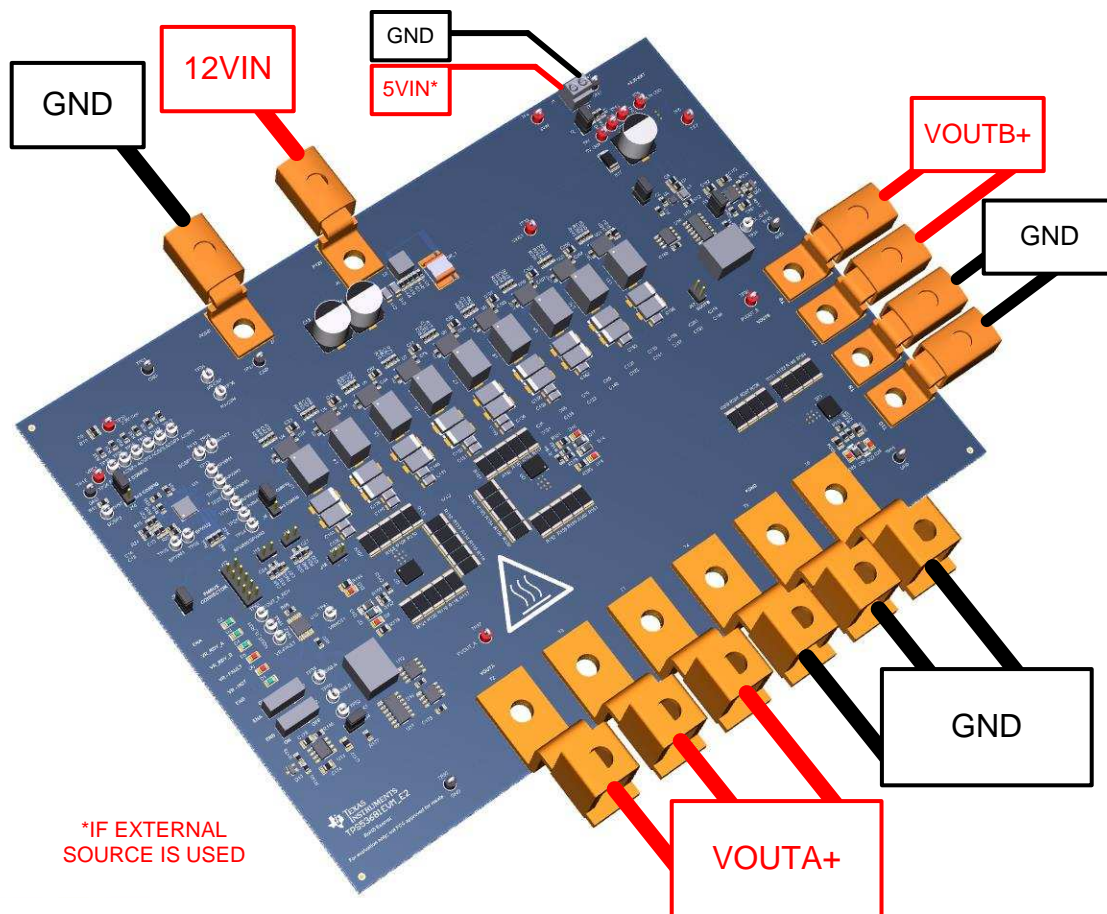

Figure 9. TPS53681EVM Recommended Test Setup
Only one DC input voltage source is needed (V_{IN}). The V_{IN} input voltage source should be a 0 V to 14 V variable DC source capable of supplying 40 Adc. Connect V_{IN} to terminals J6 and J7 as shown in Figure 9.
An electronic load is recommended for the test setup shown in Figure 9. To observe the Rail A at full load the electronic load should be capable of sinking 294 A at 0.9-V (Rail B, 47 A at 0.8-V).
Figure 9 shows the recommended test setup, which includes VIN input voltage source(s) and output load.
2. Apply the input power source VIN to the EVM. Refer to Figure 9.
1. Set up EVM as shown in Figure 9.